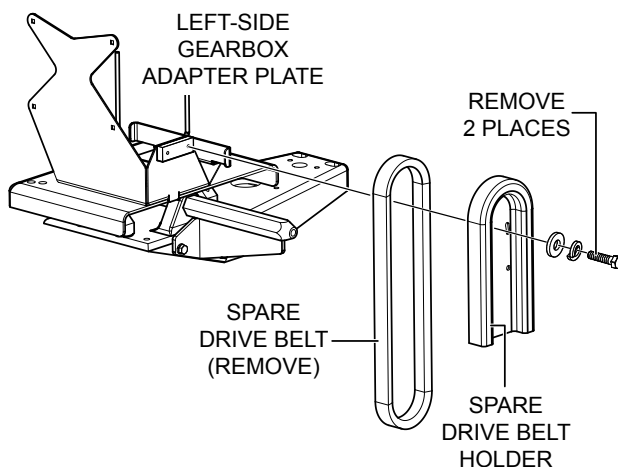

Figure 29. Spare Belt Removal
1. To replace an existing drive belt with the spare drive belt, remove the 2 bolts that secure the spare belt holder to the left-side gearbox bracket. (Figure 29) Take care not to contaminate the replacement drive belt with grease or dirt.